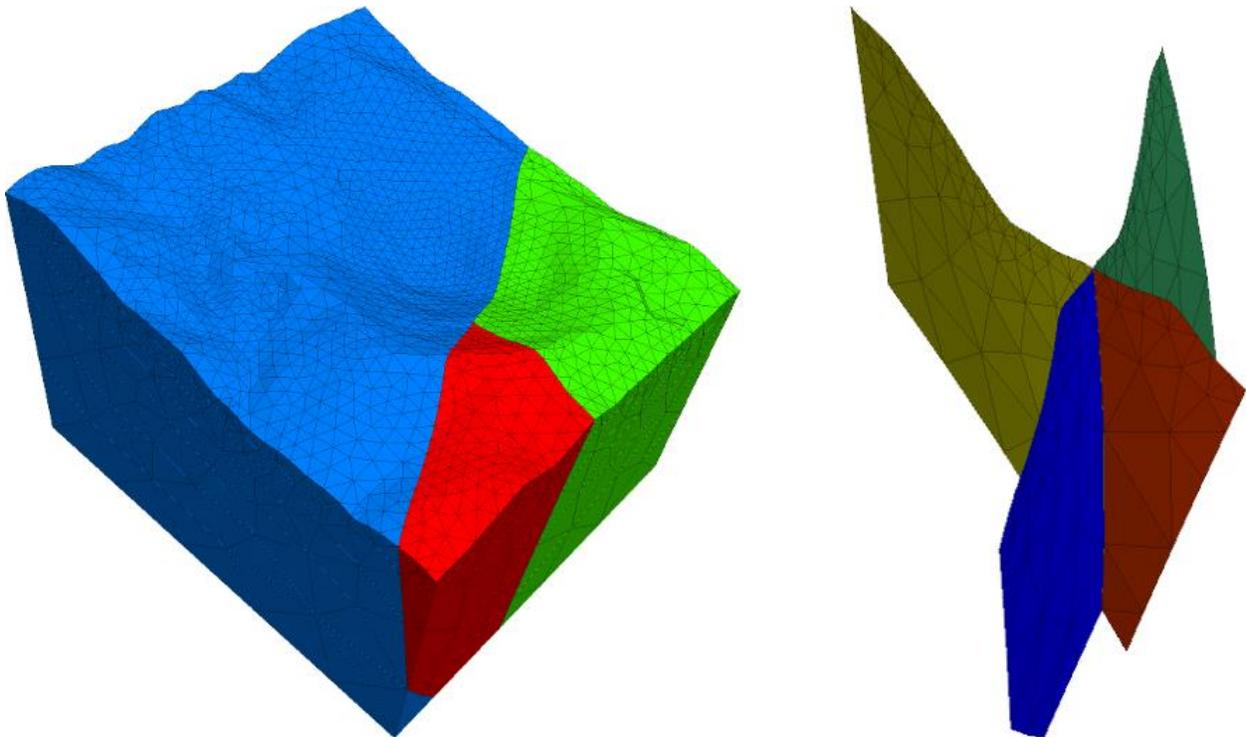

Figure 169: *Griddle* generated *3DEC* block model.
4. Call `GVol.3ddat` into *3DEC* (Figure 169). Your rigid block model should be similar to that shown below left. The joint sets are shown below right. Note, *3DEC* output consists of a data file with *3DEC* POLYHEDRON commands which create rigid blocks in *3DEC* (these are not deformable zones). If you wish to make the blocks deformable in *3DEC* you need to use the *3DEC* GENERATE command to populate the rigid blocks with zones.